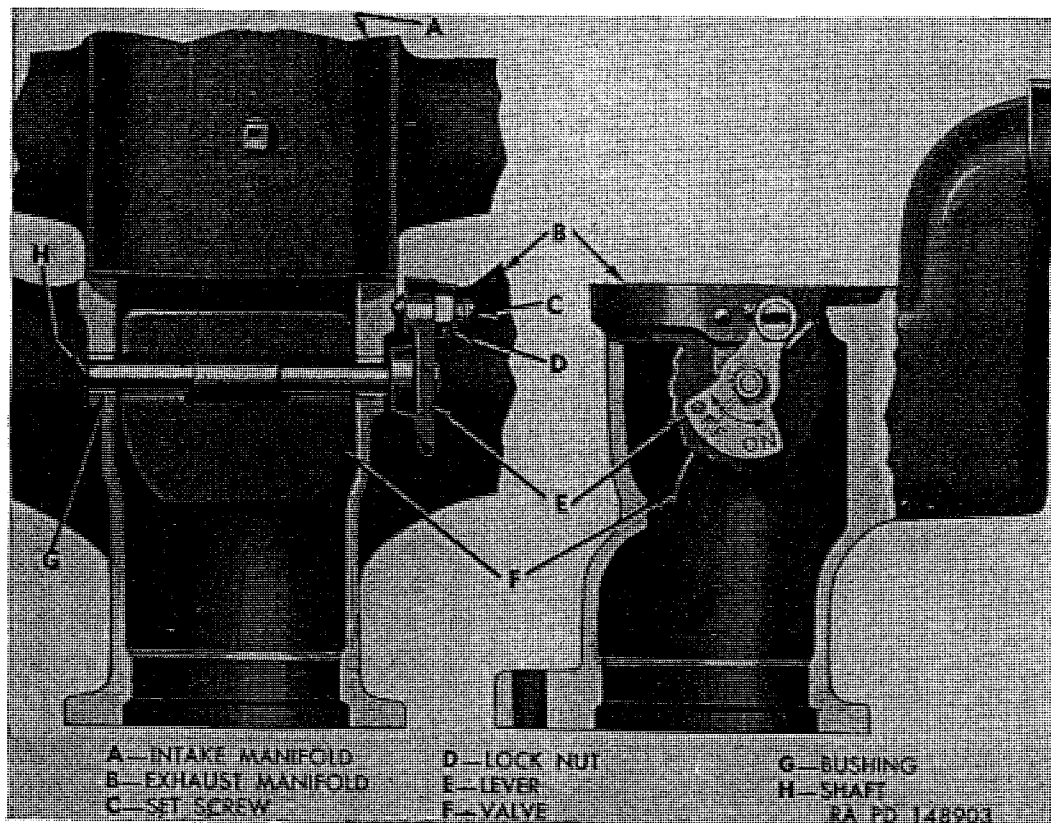

Figure 132. Manifold heat control.
a. General. Adjustable valve in exhaust manifold is provided to control temperature at intake manifold center section where incoming fuel mixture is preheated. There are three positions for heat control lever (E, fig. 132). Correct setting is important to efficient engine operation and fuel economy.